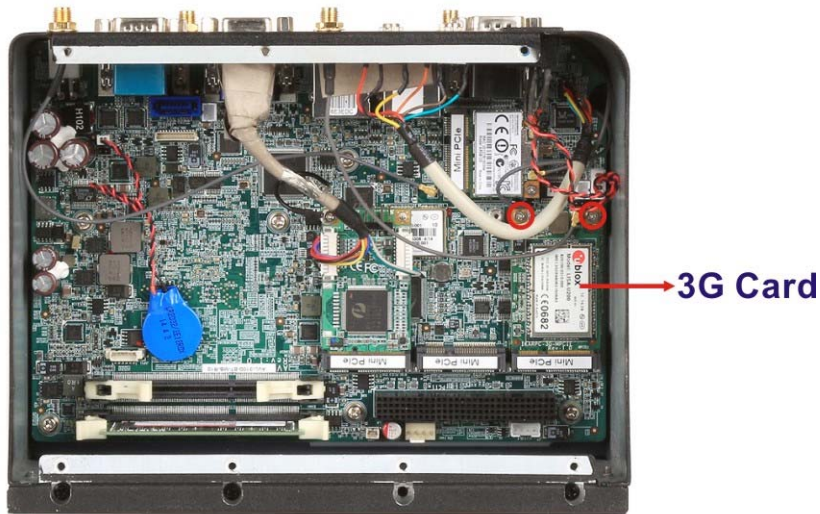

Figure 3-3: 3G Card Retention Screws
Step 4: The SIM card sockets are located under the 3G card (if installed). Remove the 3G card by removing the two 3G card retention screws (**Figure 3-3**).